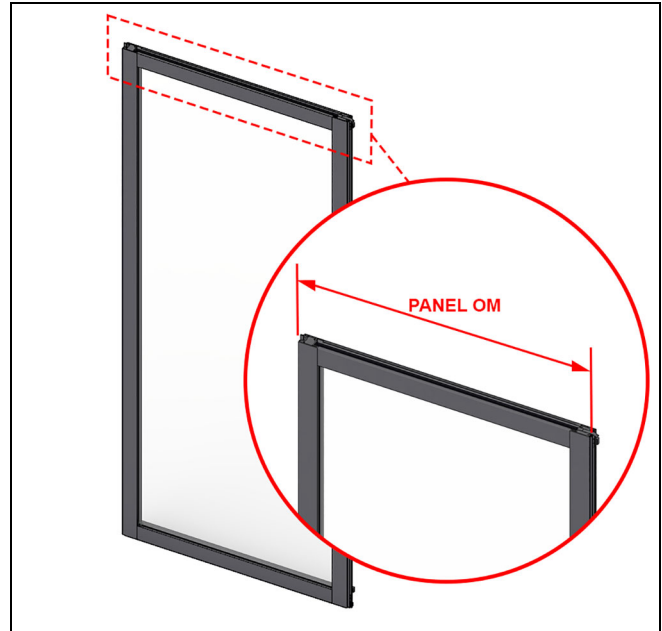
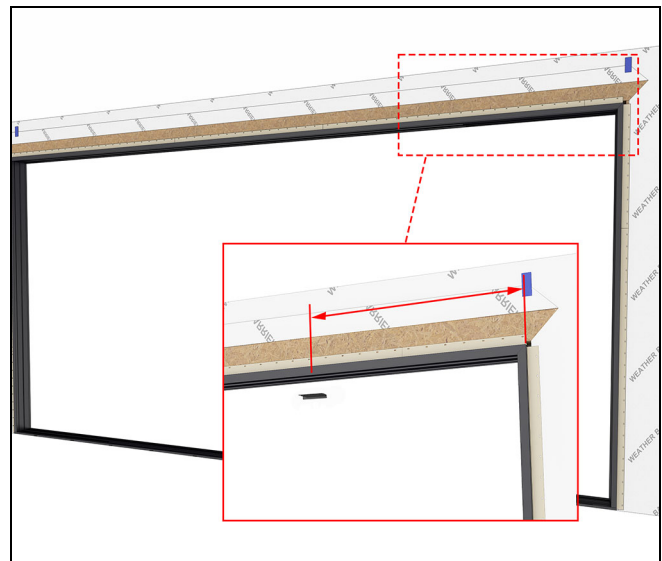

Figure 128
Figure 129
1. Measure the (H) stationary panel OM. Transfer that measurement to the interior track of the head jamb and center the top stationary bracket at that distance. See Figure 128 and Figure 129.